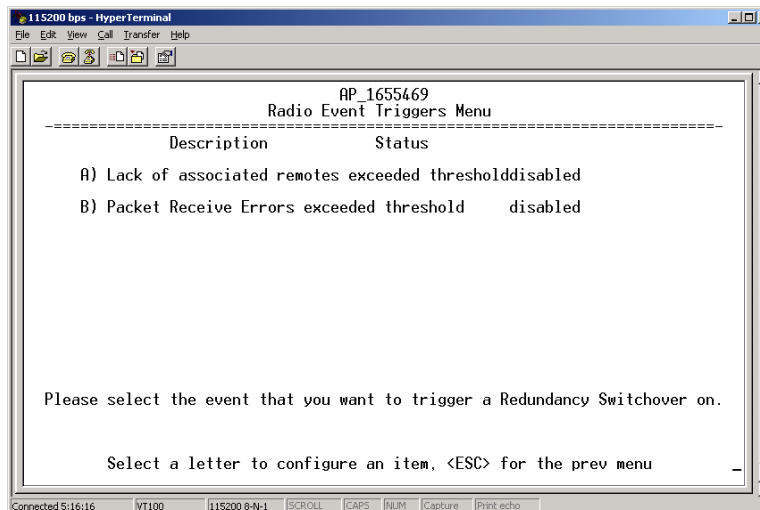

Figure 3-62. Radio Event Triggers
- ⌘ **Radio Event Triggers** This selection opens a submenu (Figure 3-62 on Page 95) where you can set/view the trigger status for Radio Events, such as a loss of associated Remotes or excessive packet errors.